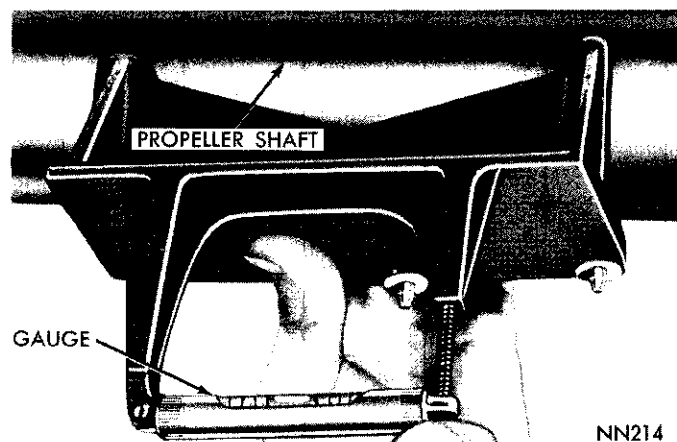

Fig. 7—Measuring Front Universal Joint Angle
(4) Remove engine adapter SP-5046 and gauge SP-5060 from flange adjacent to the vertical wall of oil pan and separate the gauge from engine adapter.
(5) With gauge SP-5060 adjusted for the correct engine angle reference, position gauge SP-5060 squarely and firmly along underside of the propeller shaft (Fig. 7). Make sure Veeway is in alignment and that both adapter pins are contacting propeller shaft. Be sure arrow on gauge is pointing toward the front of car.